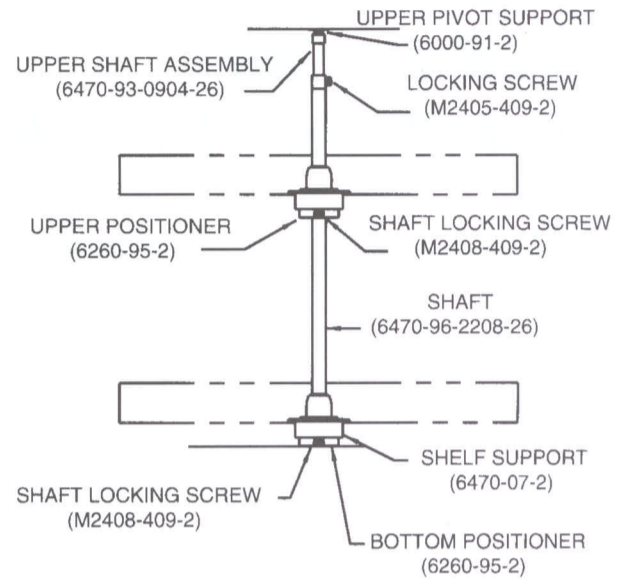

FIGURE 2
1. Insert shelf support in tray from bottom with keyway to rear of tray and position top shelf hub on top of tray with keyway to rear of tray. Install three (3) 3/4" x #8 (M1812-251-2) self tapping pan head screws through top hub into shelf support and tighten.
2. Locate the mounting holes with the template (see reverse side) and affix the bottom positioner to the cabinet floor with four (4) 3/4" x #8 (F1208-13-2) oval head screws. NOTE: Shaft locking screw must face cabinet opening.
3. Locate the mounting holes with the template and affix the upper pivot support to the underside of the cabinet top (see Figure 2) with four (4) 1/2" x #8 (F0808-26-2) oval head screws.
5. Insert the upper shaft assembly into the top end of the shaft. Loosely install the lock screw. Insert the shaft/tray assembly into the bottom positioner. Extend the upper shaft assembly to engage the upper pivot support (See Figure 2).